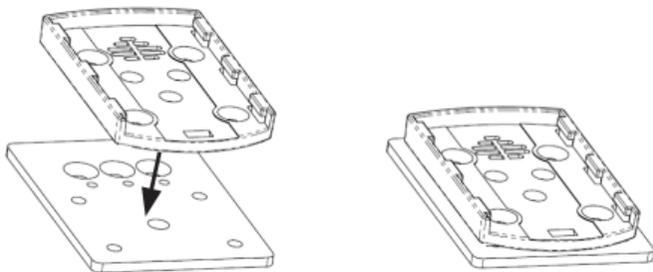

Figure 2
4. Remove the other liner on the *Double-Sided Adhesive Tape* and firmly press the *TPX™ Adapter Plate* onto the mount plate as shown in **Figure 2**.